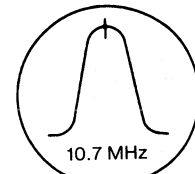

Fig. 2
| (1) FM | High side thru. 0.001 μF to test point ▼. Negative side to test point ▼. | 10.7 MHz (SWP.) | Point of non-interference. (on/ about 90 MHz) | Connect vert. amp. of scope to test point ▼. Negative side to test point ▼. | T1 (FM 1st IFT) | Adjust for maximum amplitude. (Refer to fig. 2). |